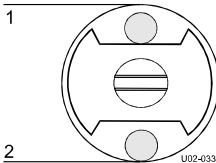

Figure 17: Auto-grip shaft position.
2. Place the scrap core on the shaft, holding the shaft as in Figure 17.
3. Insert the shaft into the core cylinder of the film roll, holding the auto-grip shaft as in Figure 17.
4. Place the shaft with the film roll in the correct way back into its suspensions (see Figure 17).